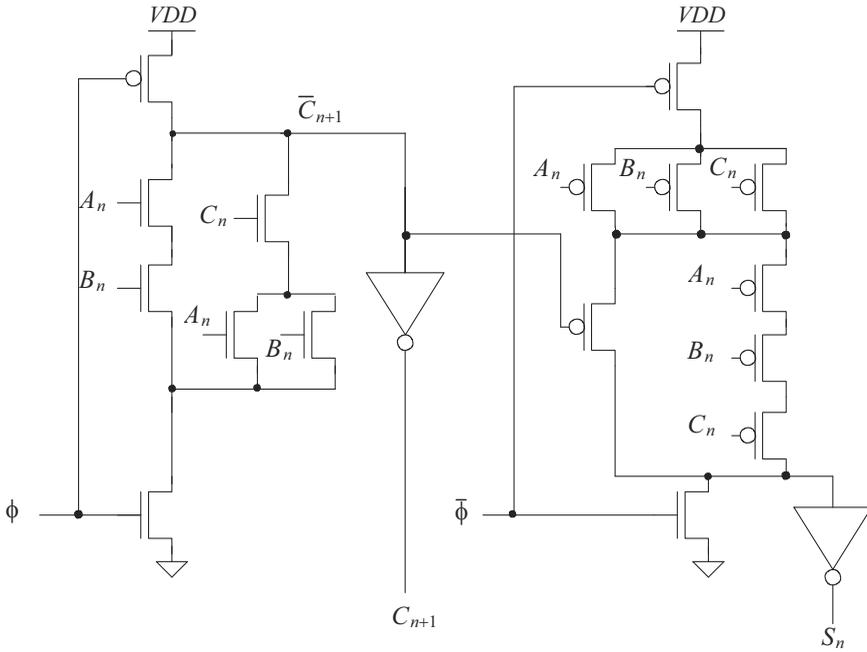

Figure 14.19 A high speed adder cell. See Problem 14.10.
- 14.10 The circuit shown in Fig. 14.19 results from the implementation of a high-speed adder cell (1-bit). What type of logic was used to implement this circuit? Using timing diagrams, describe the operation of the circuit.
- 14.11 Discuss the design of a 2-bit adder using the adder cell of Fig. 14.19. If a clock, running at 200 MHz, is used with the 2-bit adder, how long will it take to add two words? How long will it take if the word size is increased to 32 bits?